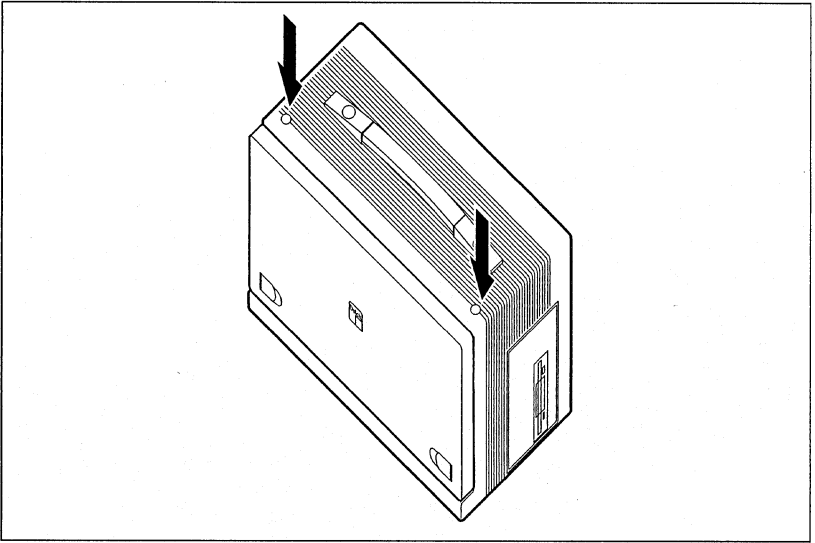

fig. 1-1
2. Press the keyboard release buttons on the top of the unit to release the keyboard (fig. 1-1).